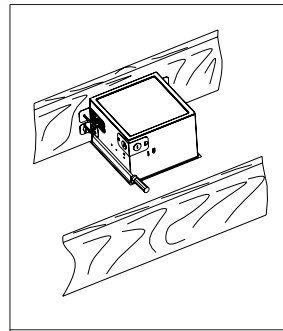

Fig.9
4. Place housing in opening so that its bottom edge is flush with finished ceiling. Nail it to joist through keyholes on both sides. To ensure a noise-free installation, drive another nail through the top hole of each mounting bracket.(Fig.9)